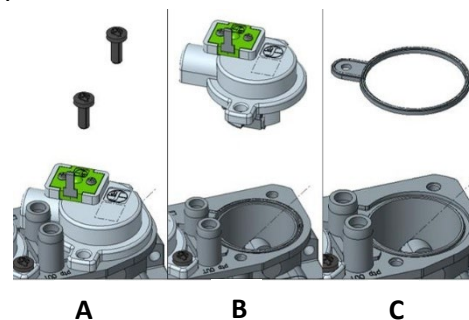

Fig. 1
- Two (2) On/Off solenoids (A), with different colors: green (EV1, code 1967001) and red (EV2, code 1967002).
- Four (4) screws (B)
- Two (2) gaskets (C)
See Fig 1. Using a Torx T20, or slotted screwdriver, remove and discard the two (2) solenoid mounting screws (A), remove the old solenoid assembly (B) and the gasket below it (C).